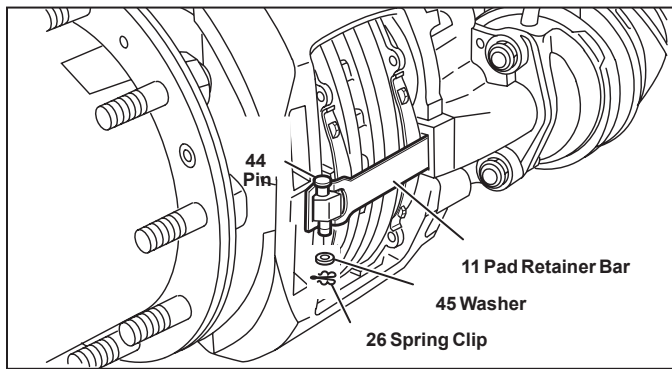

Figure 23 – Retainer Bar Removal
See *Figure 23*. While pressing down against the pad retaining bar (11), remove and retain the clip (26), washer (45), and pin (44). Remove the pad retainer bar (11). Bendix recommends that these items be replaced with new (See *available kits and parts, Section 4.0*).